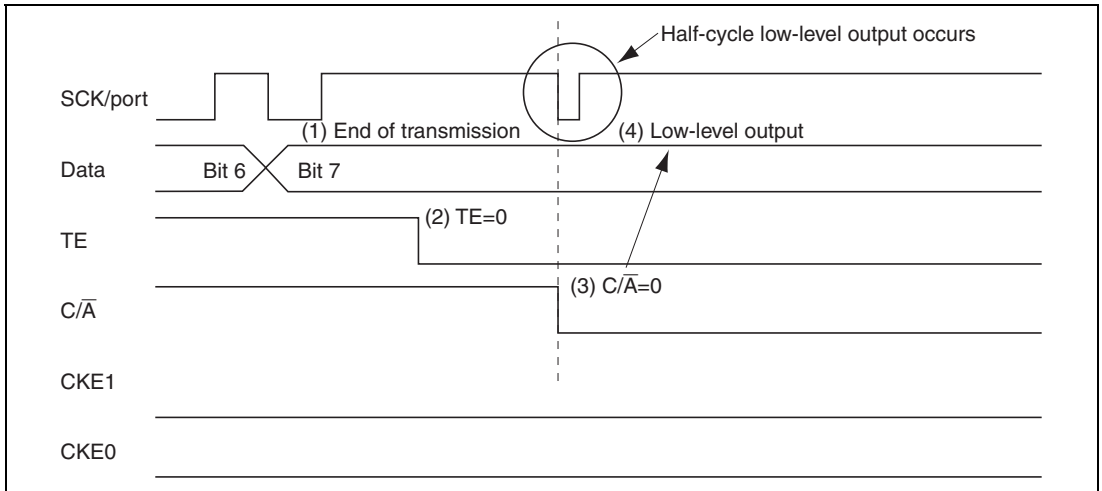

Figure 11.23 Operation when Switching from SCK Pin Function to Port Pin Function
- (1) End of serial data transmission
- (2) TE bit = 0
- (3) $\overline{C/A}$ bit = 0 ... switchover to port output
- (4) Occurrence of low-level output (see figure 11.23)